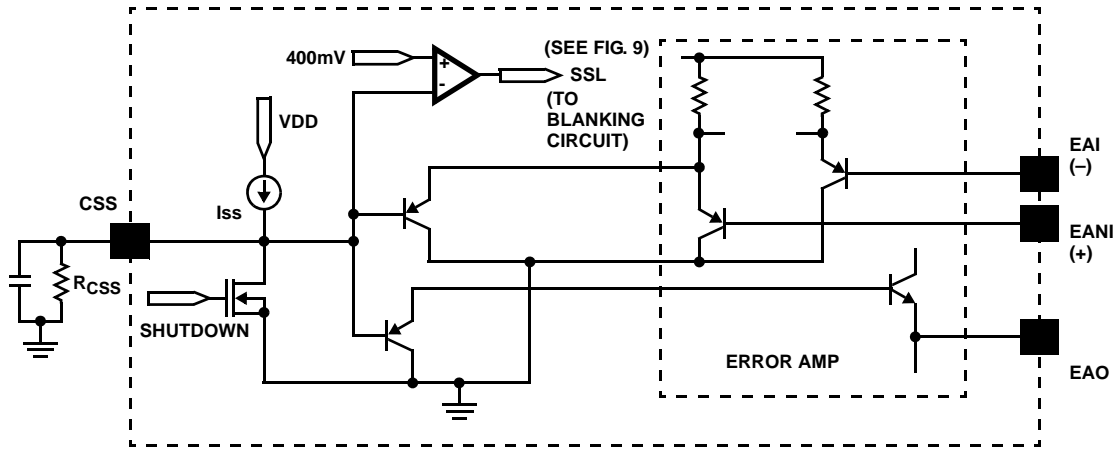

FIGURE 5. SIMPLIFIED CLAMP/SOFT-START
- Both EANI and EAO are clamped by the voltage (Vclamp) set at the CSS pin, as shown in Figure 5. Note that the diodes in the functional block diagram represent the clamp function of the CSS in a simplified way.
- The clamping voltage determines the cycle-by-cycle peak current limiting of the power supply. It should be set above the EANI and EAO voltages and can be programmed by an external resistor, as shown in Figure 5 using Equation 3.
eliminates response degrading delays which would be caused if filtering of the current feedback was incorporated. The current ramp is blanked out during the resonant delay period because no switching occurs in the lower FETs. The leading edge blanking function will not be activated until the soft-start (CSS) reaches over 400mV, as illustrated in Figures 5 and 9. The leading edge blanking (LEB) function can be disabled by tying the R\_LEB pin to VDD, i.e., LEB = 1. Never leave the pin floating.